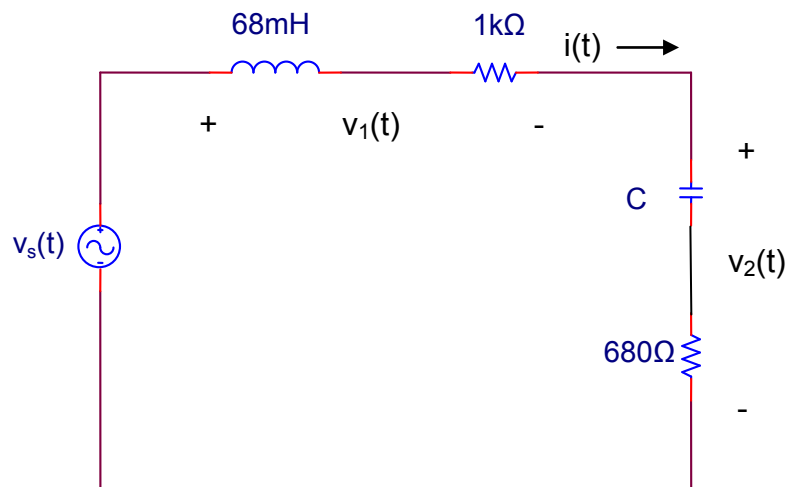

Figure 9.5
1. For the circuit of Figure 9.5, calculate Z_1 , Z_2 , and Z_s , the impedances of the series R-L, the series R-C, and the entire circuit, respectively.
1. Construct the circuit of Figure 9.5. Set the function generator for a 1V peak sinusoid with a frequency of 1kHz. Set $C = 0.1\mu\text{F}$. Use the oscilloscope to measure the magnitude of the phasors v_1 and v_2 .